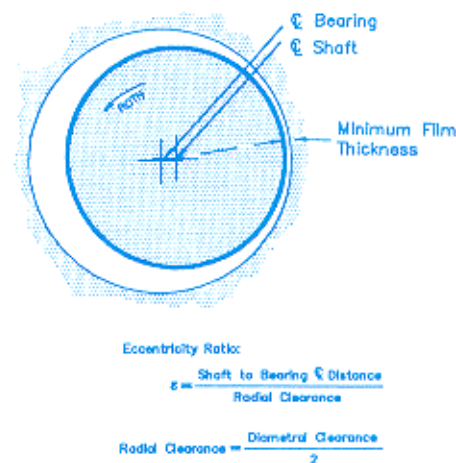

Figure 4
- Eccentricity Ratio (Figure 4) which indicates how close the shaft is to the center of the bearing or to the